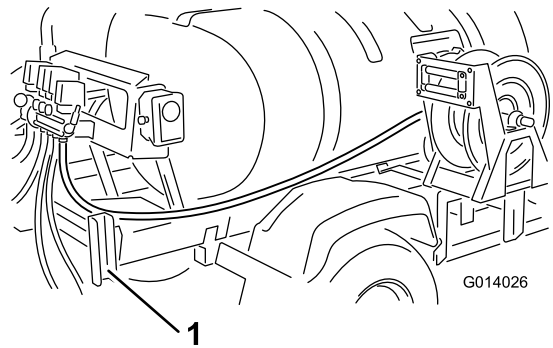

Figure 12
6. Route the hose rearward along the tank skid frame, inside of the right rear fender inside the boom support channel (Figure 12).
7. Route the hose around the mount frame to the hose reel valve installed previously (Figure 12).